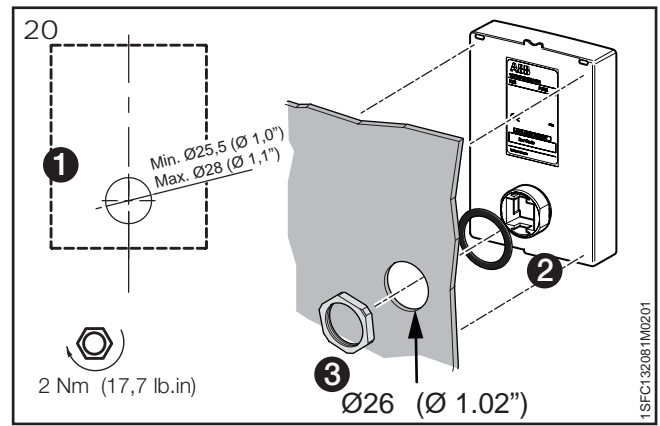

Figure 20: Drill a hole for the detachable keypad.
1. Remove the detachable HMI from the softstarter by unsnapping the plastic latch under the detachable HMI, see ❶ and ❷ in **Figure 20**.